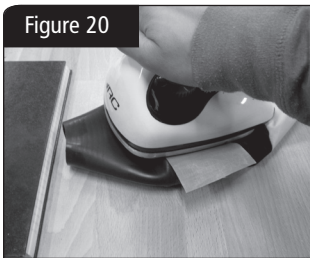

Figure 20
10. Center the non-stick paper over the wrist seal where the seal and suit meet and press the iron with moderate pressure for approximately 30 seconds. See Figure 20.